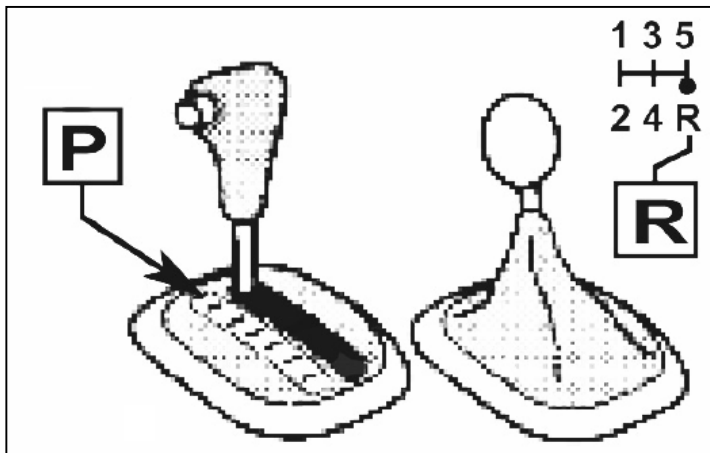

Figure 2
2. Put transmission in "P" (automatic) or reverse (manual). Lift Vehicle. See Figure 2.